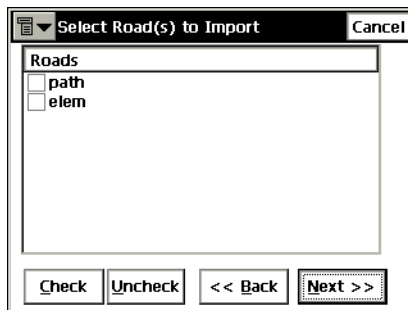

Figure 5-5. Select Road(s) to Import
5. In the *Select Road(s) to Import* screen select the roads (if available) to import (Figure 5-5).